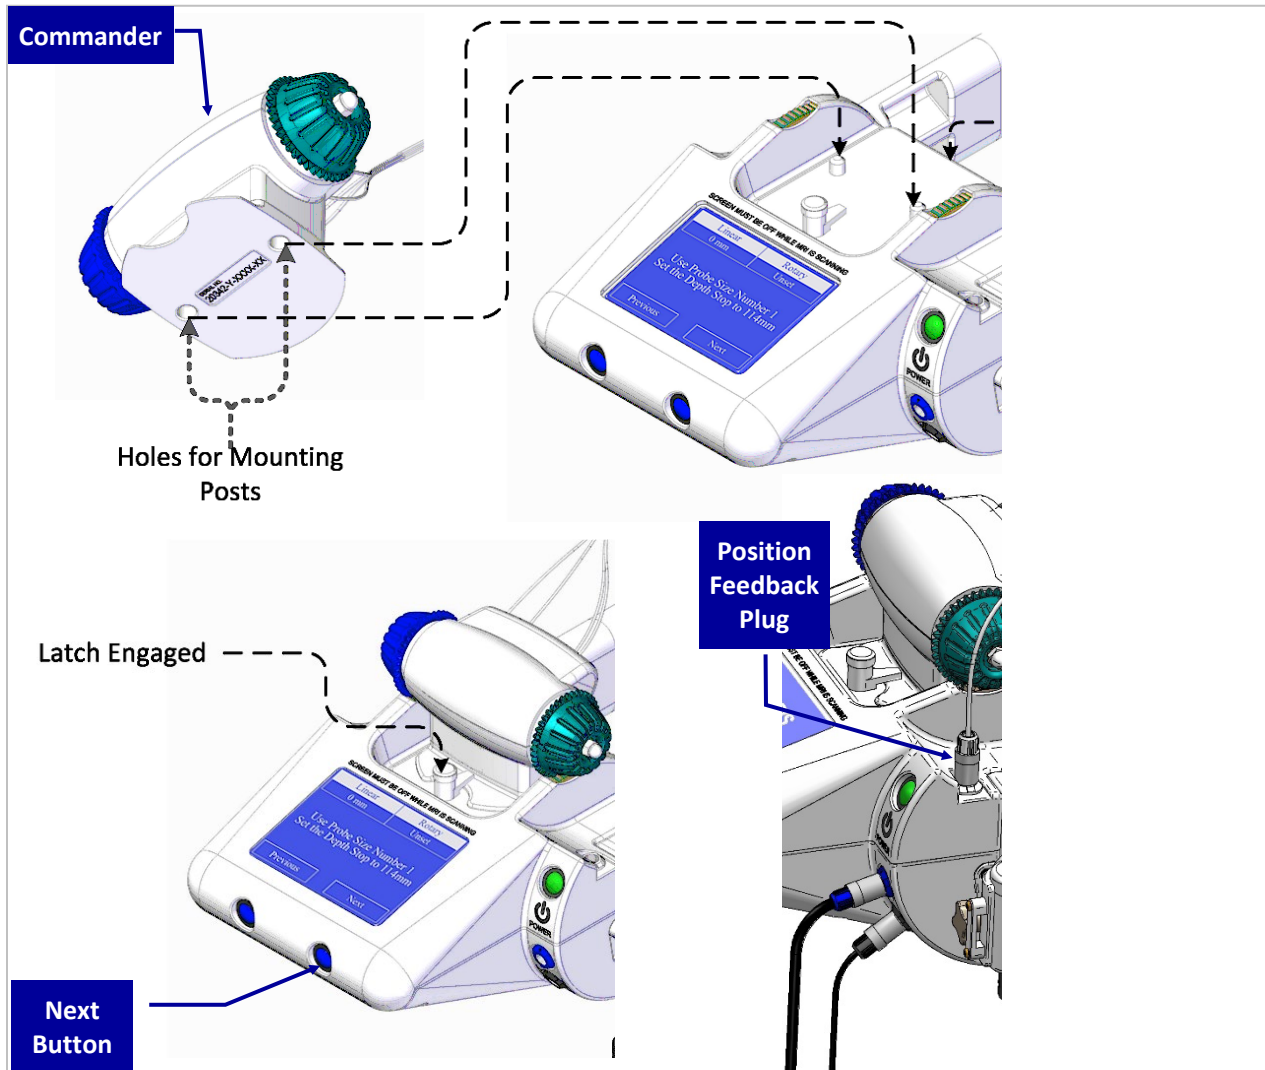

Figure 8.51: Probe Driver Connection to Interface Platform (IP)
- Attach the Commander to the IP and engage the Latch to lock the Commander in place by twisting the Latch to the centered position (see Figure 8.51)
- Connect the Position Feedback Plug (cable) as shown in Figure 8.51